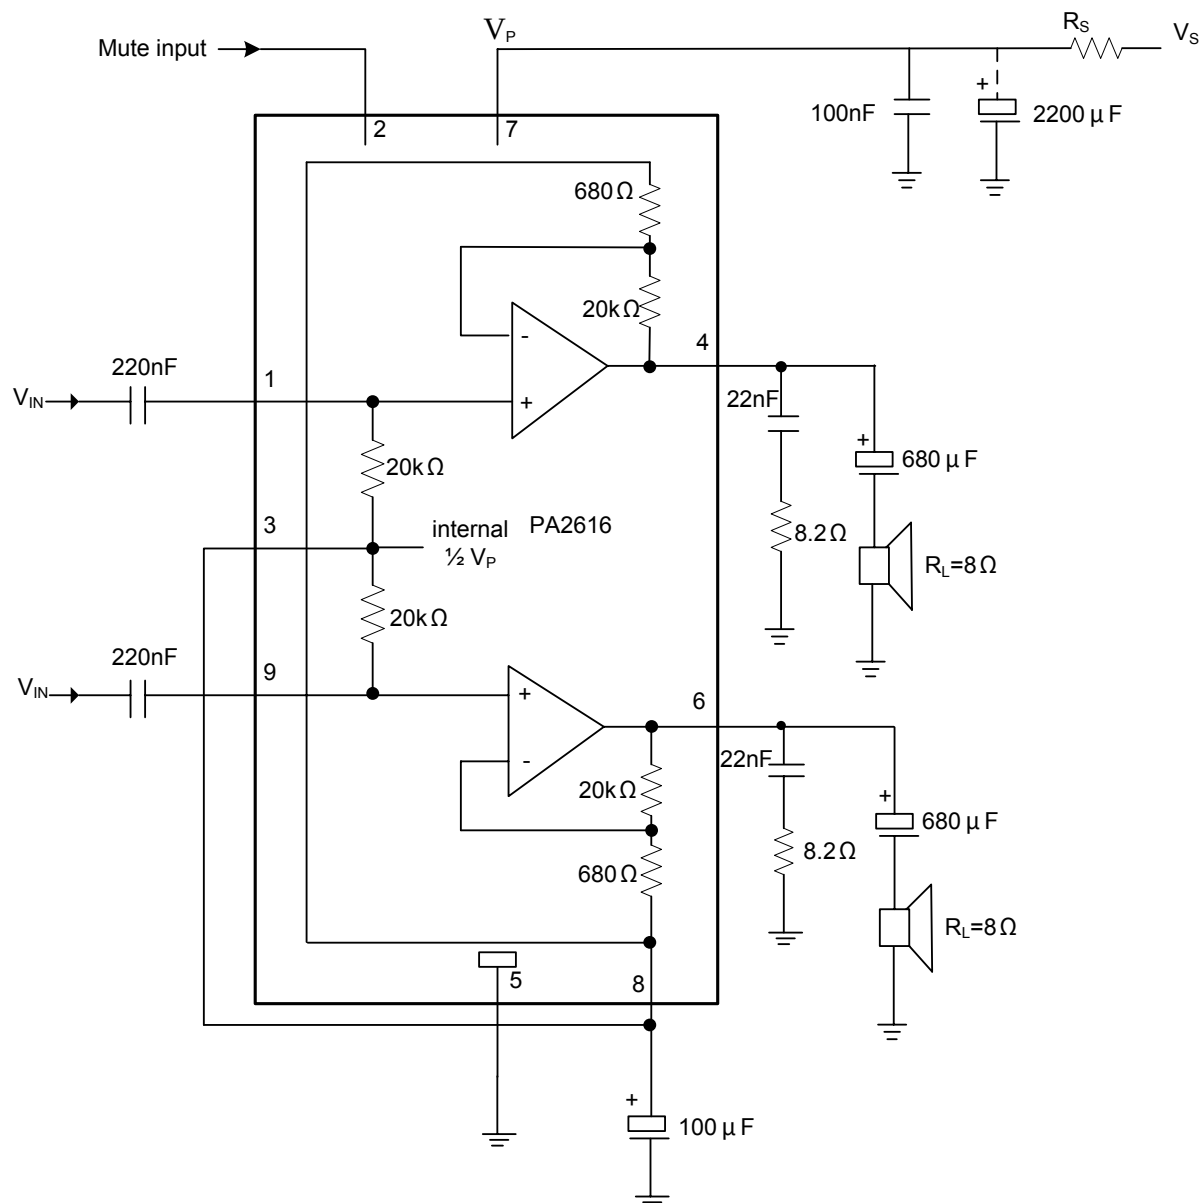

Fig. 2 Test and Application Circuit with Asymmetrical Power Supply
6. $V_P = 24\text{ V}$; $R_L = 8\text{ }\Omega$; $T_a = 25\text{ }^\circ\text{C}$; $f = 1\text{ kHz}$; asymmetrical power supply $I_{MUTE} < 30\text{ }\mu\text{A}$. See Fig.2